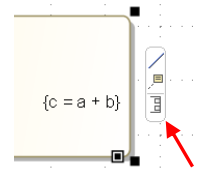
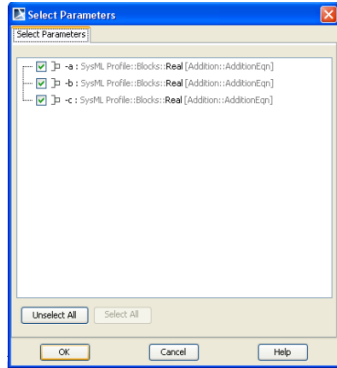

Figure 2.10
Figure 2.11 Select Parameters window
- ii. Use the Display Parameters icon (Figure 2.10) and Select Parameters window (Figure 2.11) to show parameters **a**, **b** and **c**.
Note: In general, Edit Compartment and Presentation Options provide control in displaying or hiding properties inside blocks, but displaying ports or parameters inside constraint blocks and constraint properties uses the floating toolbar icons like in Figure 2.10.